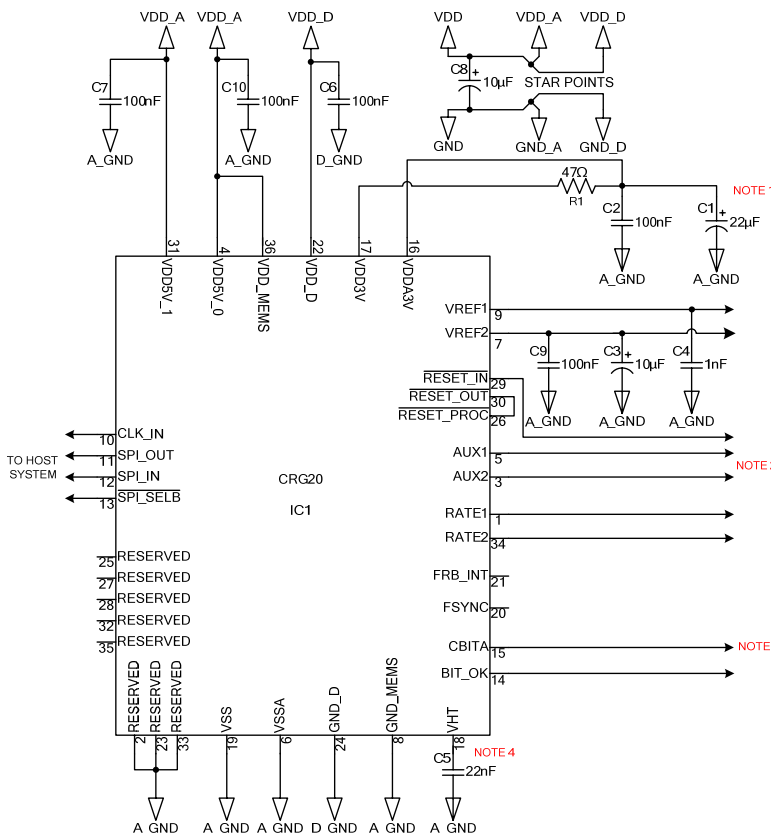

Figure 3
*⁴ Operating voltage stated as 4.75V-5.25V (5V optimum). Device to be connected as per Figure 3.